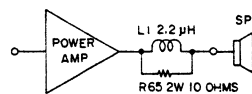

Fig. 17
9) L1 and R65 Operation (Refer to Fig. 17 to 19)
As shown in Fig. 17, most amplifiers have an inductance or a resistor between the output and the speaker. The inclusion has several advantages.